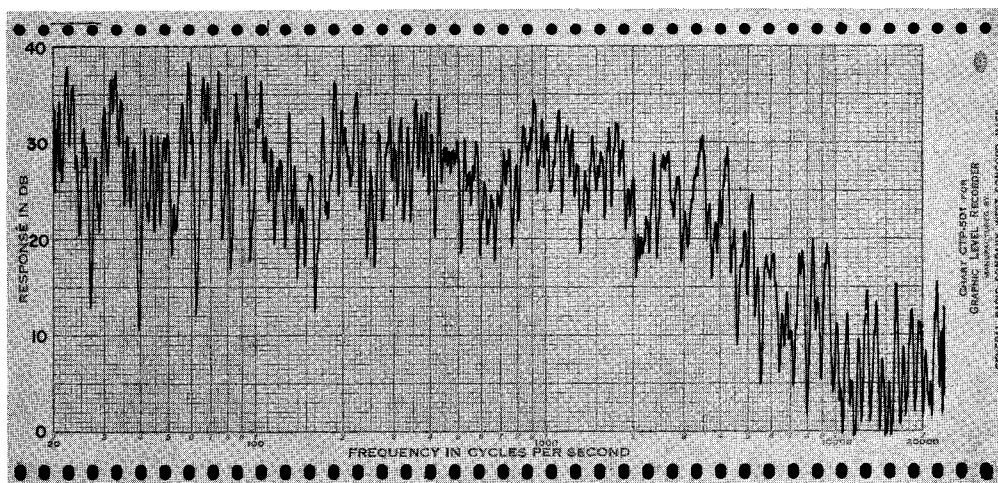

Figure 5.8. Recordings of the frequency response of a public-address system, taken with 20 in./sec (above) and 3 in./sec (below) writing speeds.
**5.7 FREQUENCY RESPONSE MEASUREMENTS USING TYPE 1304-B BEAT-FREQUENCY AUDIO GENERATOR.** The frequency response of transducers and electrical devices can be automatically plotted with the recorder and Type 1304-B Beat-Frequency Audio Generator (refer to paragraph 3.4.2). Figures 5.8 and 5.9 show examples.